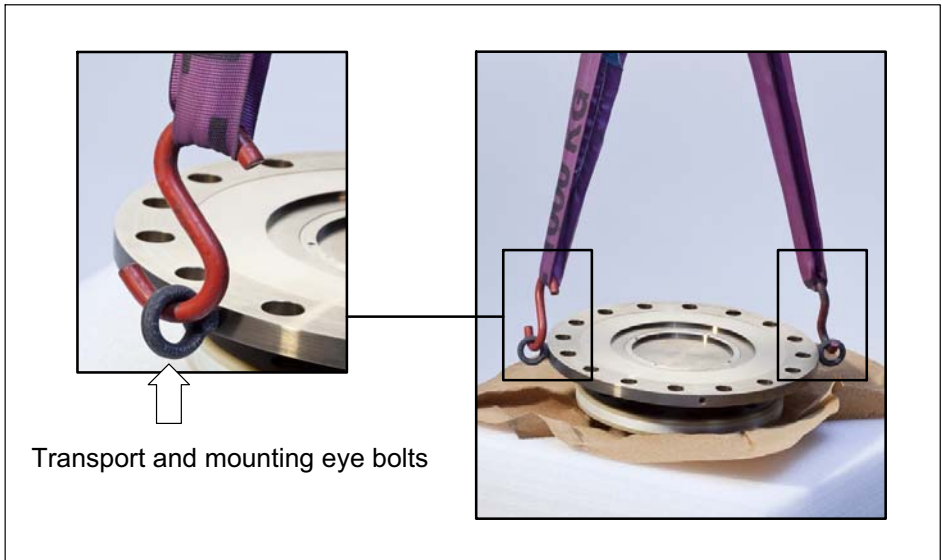

Fig. 5.1 Transport and mounting eye bolts on the rotor
Two eye bolts are screwed into the rotor as transport and mounting aids. Hook the lifting equipment to these eye bolts as this ensures that the rotor is lifted horizontally out of the packaging (see Fig. 5.1).
1. Lift the rotor out of the packaging, rotate horizontally by 180° , so that flange B is pointing upwards (see Fig. 5.1).
6. Carefully lift up the rotor and move it to the mounting position (see *Fig. 5.1*).